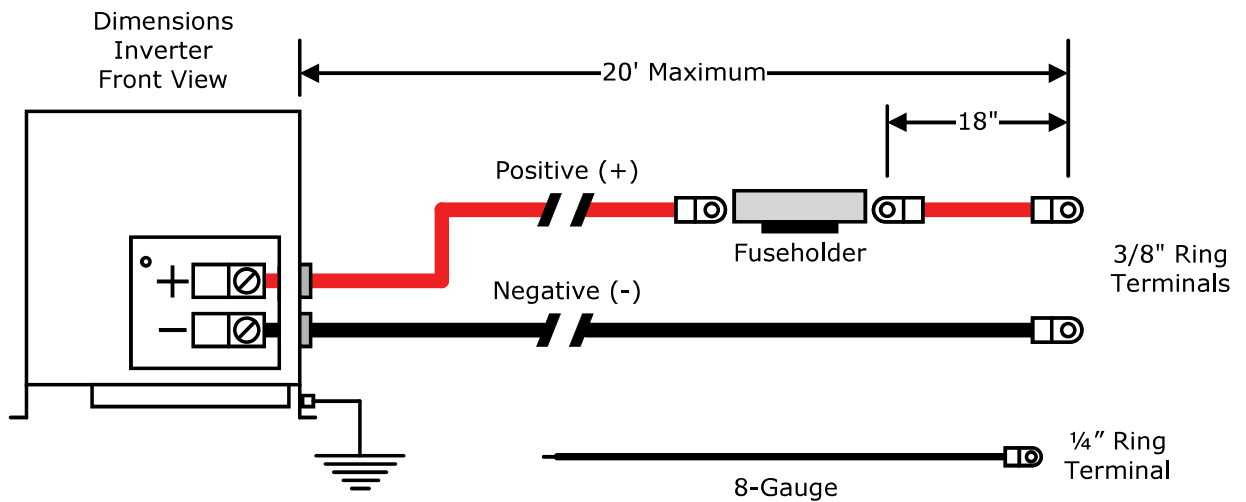

Figure 2-3, Typical DC Cable Connections
After determining the mounting position, refer to the physical dimensions as shown in Figure 2-3 or use the base of the inverter as a template to mark your mounting screw locations. After marking the mounting screw locations, mount the unit with appropriate mounting hardware. Mounting hardware includes four of each: 1/4-20 steel bolts, flat washers, lock washers, and nuts. The length of the bolts should be equal to the thickness of the mounting surface plus 3/4".
Refer to Figures 2-3 and 2-4 for the correct way to connect the DC cables. Tighten the DC cable connections to 50 in-lbs.
NOTE: Refer to figures 2-3 and 2-4 for a typical DC wiring diagram. See table 2-1 for proper cable sizes.
3. Connect a short wire (same rating as the DC wires) to the other side of the DC circuit breaker and the other end of the short wire to the positive terminal of the battery bank (see Figure 2-3 for reference).